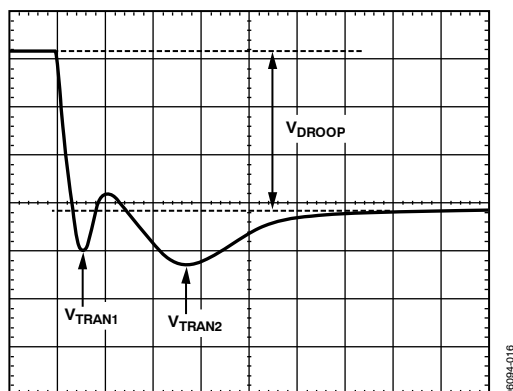

Figure 18. Transient Setting Waveform
18. With the dynamic load still set at the maximum step size, expand the scope time scale to either $2 \mu\text{s}/\text{div}$ or $5 \mu\text{s}/\text{div}$. The waveform can have two overshoots and one minor undershoot (see Figure 18). Here, V_{DROOP} is the final desired value.